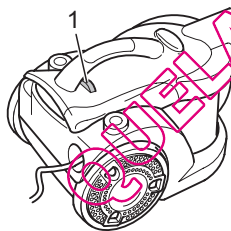

Fig. 11
6. Set the suction power with the suction controller (Fig. 11/1).